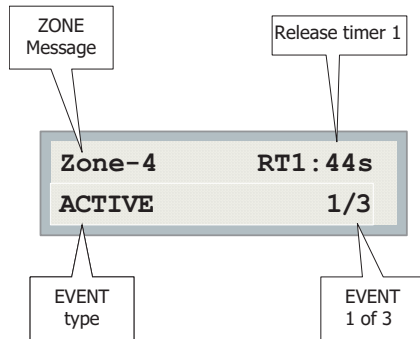
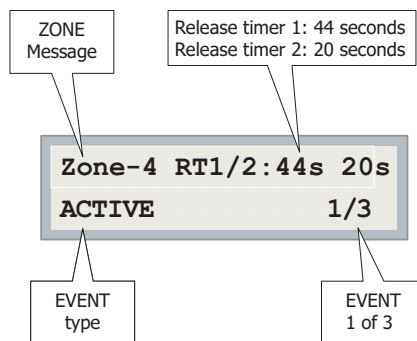

Figure 31 1 release timer active
Figure 32 2 release timers active
- Release Timer (RT) is started when the panel enters Hazard Alarm state after by detecting the 2nd alarm in cross-zoned hazard or 1st alarm in non cross-zoned hazard. The Release Timers are shown on the CFG-300 and MR-2300-LCD display; see Figure 31 and Figure 32.